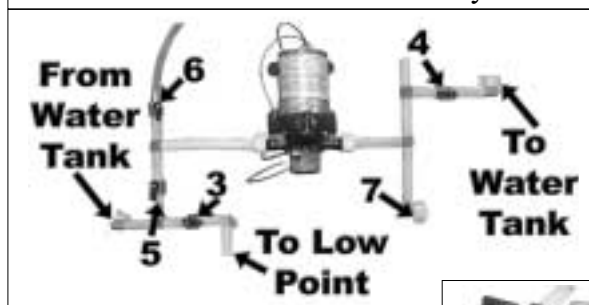

Fig. 4-5
- Make sure that valves 1, 2, 3, 5, and 6 are closed and valve 4 is open. (Fig. 4-5 & 4-6)
- Close valve 4. (Fig. 4-5)
- **Model 23RK:** Make sure valves 1, 2, 3, 4 and 6 are closed and valve 5 is open. (Fig. 4-5 & 4-6)
- **Model 23RK:** Make sure all valves are closed. (Fig. 4-5 & 4-6)